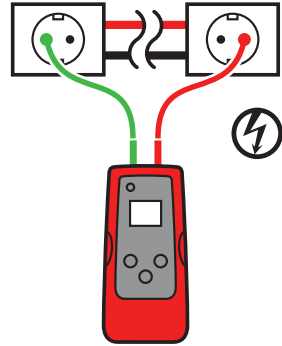

Figure 3.1a
2. Connect red lead to energized Line wire (on the load side of the system). The signal will **ONLY** be transmitted between the outlet to which the transmitter is connected and the source of power (see Figure 3.1a). (refer to section 2.2 for further explanation).